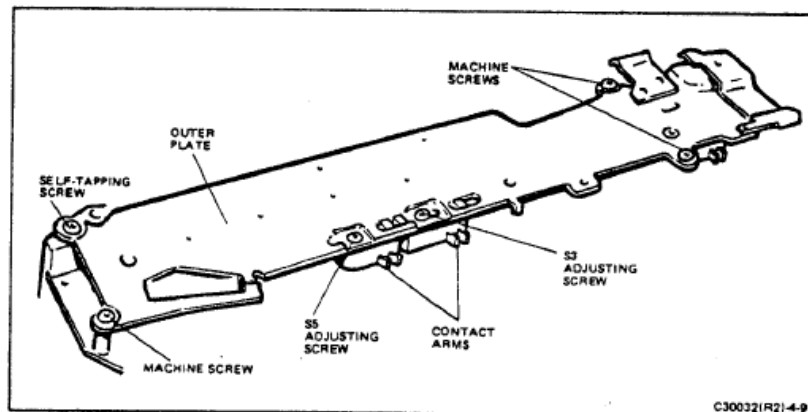

FIGURE 4-91 S3/S5 SWITCHES
- a. To install the replacement switch, refer to Figure 4-91. Insert the switch in such a position that the arm of the contacts will be as shown on the illustration.
- Remove the S5 adjusting screw. Note that a tang on the switch body rides in a slot in the outerplate to prevent S5 from rotating (Figure 4-91).
- Position the replacement S5 switch so the contact arms are set as shown in Figure 4-91.